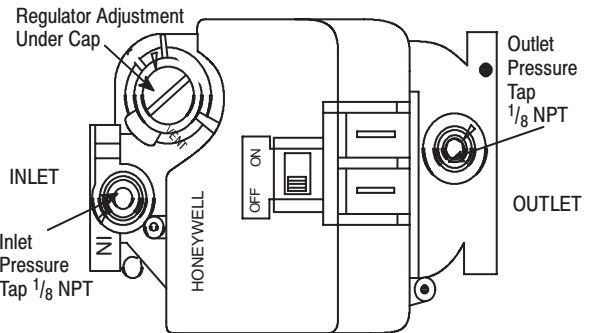

Fig. 5 - Typical Gas Control Valve
1. Remove the cap screw and pressure regulator adjusting screw. (See Fig. 5 & Fig. 6)
4. Install the pressure regulator adjusting screw and give it eleven (11) full clockwise turns. This will set the manifold pressure close to required setting for normal operation.
1. Remove the plug from the Inlet Pressure Tap on gas valve and install a manometer. (Fig. 5)
1. With the gas valve switch in the OFF position, remove the pressure tap plug from the outlet end of the valve, and connect a “U” tube manometer to the pressure port (See Fig. 5).